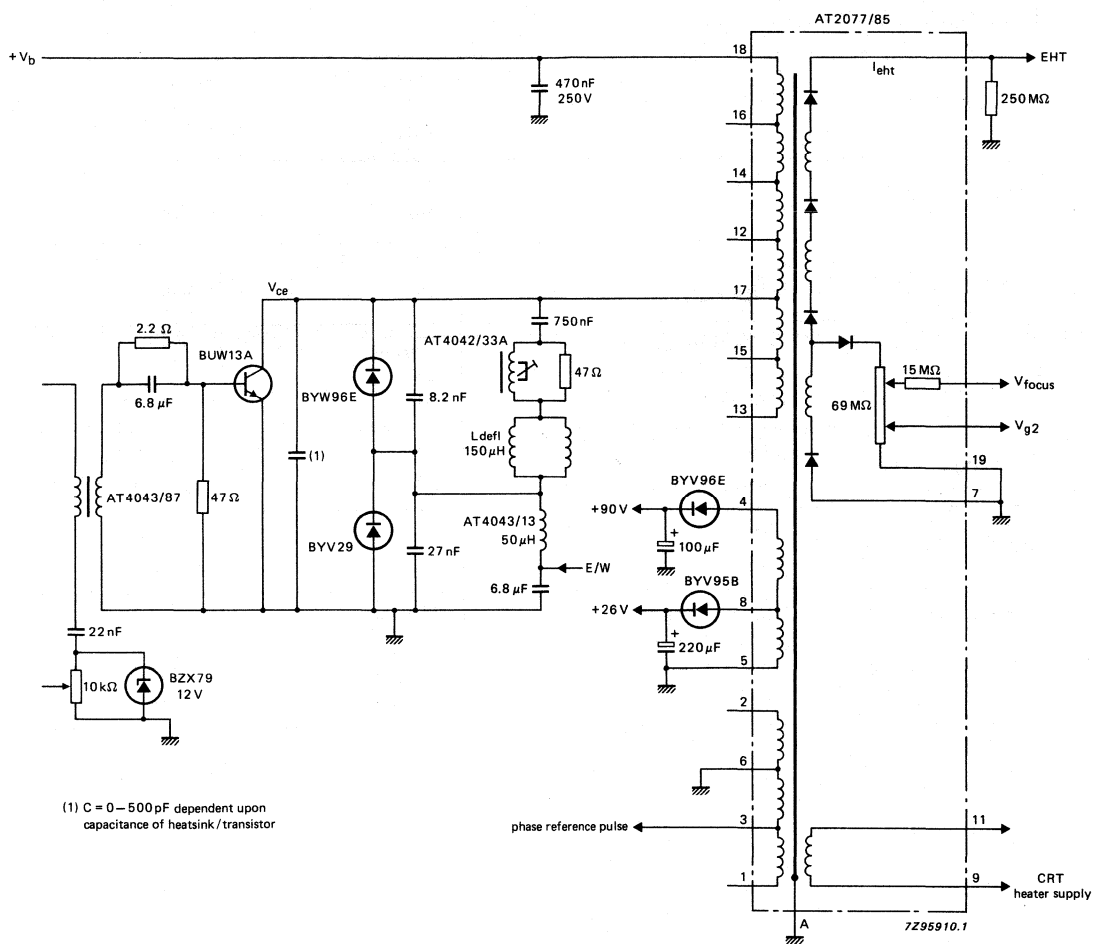

Fig. 7 Application circuit for colour DGD monitors (frequency range 30 - 50 kHz).
**ELECTRICAL DATA** (see Fig. 7)